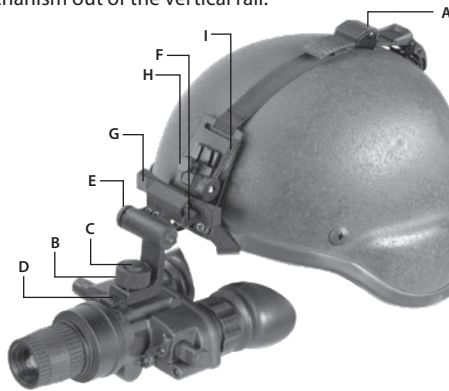

FIGURE 3-3. MOUNTING THE NYX-7 PRO TO A HELMET
1. Attach the mount to the helmet as shown in Figure 3-3.
2. Adjust and tighten the straps (A).
3. Loosen the screw (B). With the button (C) pushed down, insert the Nyx-7 PRO rail into the guide (D) of the helmet mount bracket. Tighten the screw (B).
5. Push the button (F) and move the unit along the slide-rail (G) until the most comfortable position is reached.
6. Loosen the screw (B) and move the unit along the guide (D) for eye relief adjustment.
7. Turn the lever (I) and move the unit along vertical slide-rail until the most comfortable vertical position is reached.
8. The helmet mount has a flip-up mechanism. Push the button (E) and lift the unit up until it reaches the topmost position. The unit will automatically turn off when it reaches this position.
9. Push the same button (E) to lower the Nyx-7 PRO into the correct viewing position. Turn the unit back on to continue your session.
10. To remove the Nyx-7 PRO from the helmet mount, loosen the screw (B), push down on the button (C), and slide the unit out of the guide (D).
11. To remove the flip-up mechanism from the helmet mount, loosen the lever (I), pull out the knob (H), and slide the flip-up mechanism out of the vertical rail.